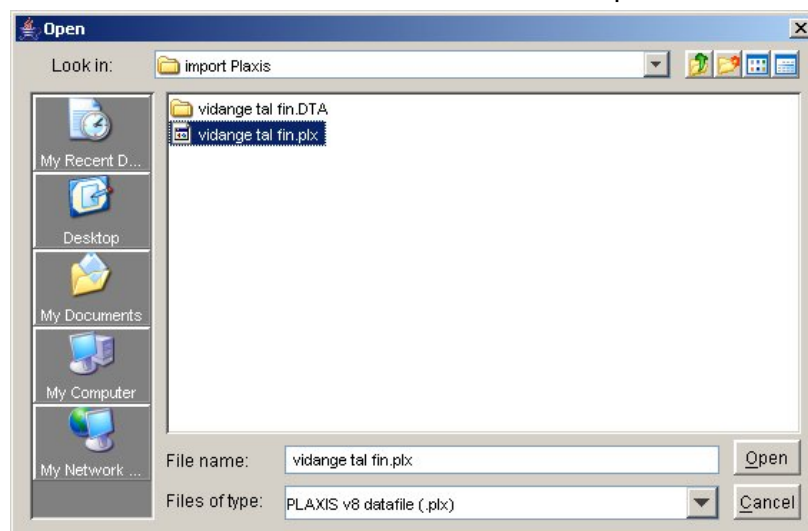

Figure 87: choice of the Plaxis file for pore pressures importation
- The Plaxis file which includes the calculated pore pressures (Figure 87). Be careful: the Plaxis files generated for a given Plaxis project include a project.plx file, and a project.DTA directory, that itself contains a copy of the project.plx file. The project.plx file that should be selected is the one "outside" the project.DTA directory (and not the one inside this directory);